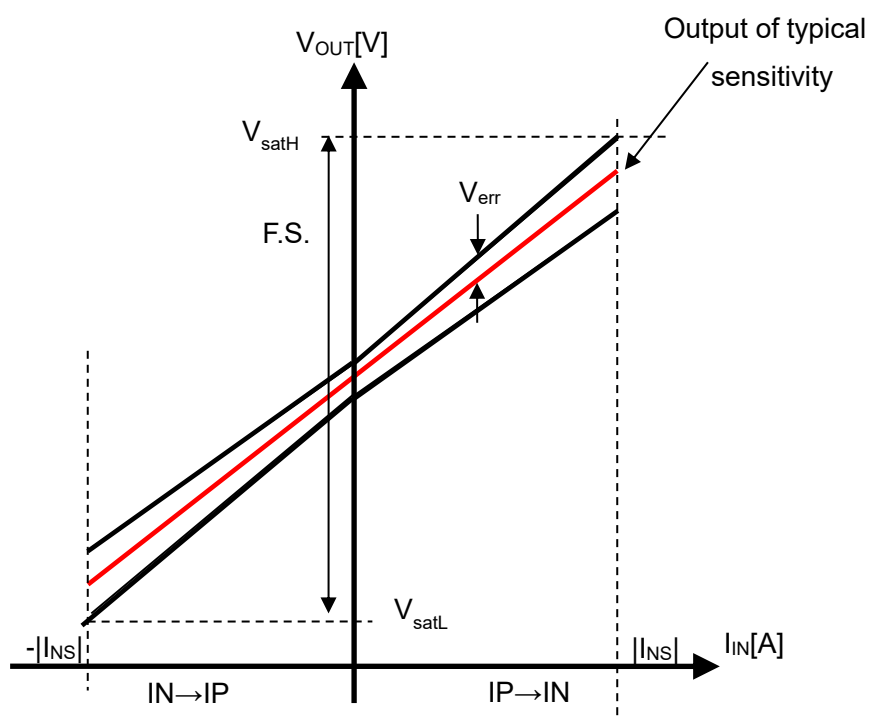

Figure 4. Total Accuracy of CZ-3A02
10.2. Total Accuracy E_{total} [%F.S.] is defined as below (See Figure 4.)